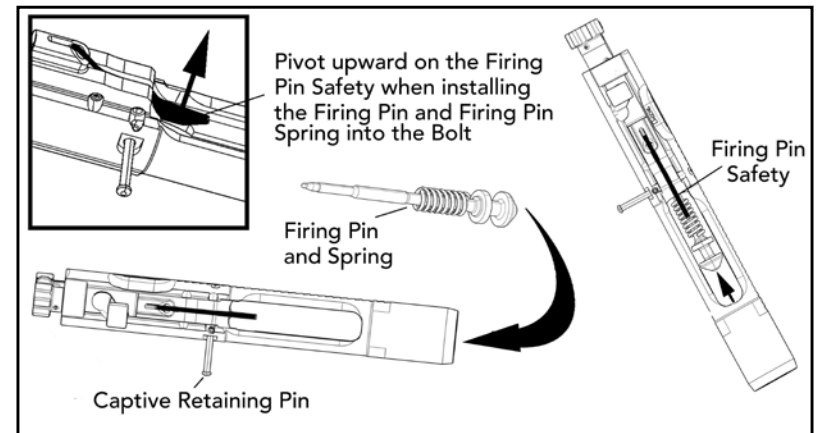

Fig. 46 – Installing the Firing Pin
- c. Ensure that the captive firing pin retaining pin is drifted completely out to the left hand side of the bolt carrier. Insert the firing pin spring onto the firing pin, pivot upwards on the spring loaded firing pin safety, and insert the firing pin and spring into the bolt carrier's firing pin tunnel until the firing pin reaches its limit of forward travel (Fig. 46).